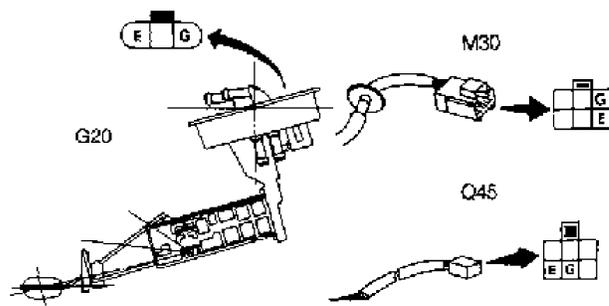

Fig. 20: Identifying Fuel Tank Sending Unit Connector Terminals
- 1) Remove sending unit from fuel tank. Measure resistance between terminals "G" (+) and "E" (-) of sending unit connector. See Fig. 20.